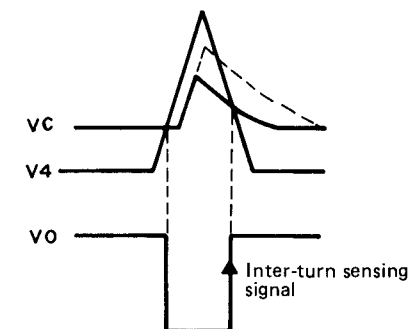

Fig. 5
- 6) A_4 is a comparator with hysteresis, and it compares V_4 and V_c , and makes the rise of its output V_0 the inter-tune sensing signal. (Refer to Fig. 5)